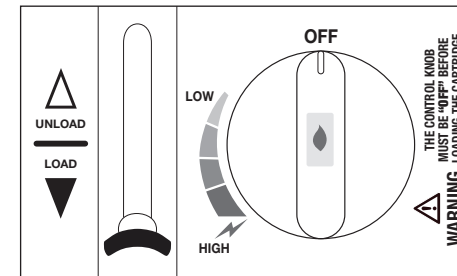

Fig. 5
5. Push the Cartridge Lock down to 'LOAD' in one firm motion (Fig. 5).